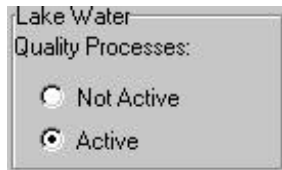

Figure 13.13
- i. Lake Water Quality processes. This section controls the printing of lake water quality information. During the reformatting of output files, this variable became obsolete, and the selection of a radio button has no impact on model results (Figure 13.13).